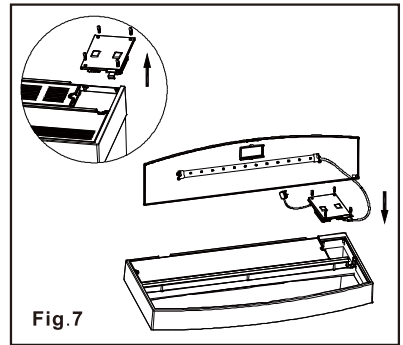

Fig.7
1. Open top cover, remove the screws on LED light set & switch box (Refer to Fig. 7).
Always unplug from household power supply before maintenance. Open top cover; remove the screws on LED light. (Refer to Fig.7) Clean the HPLED light strip with a dry cloth.